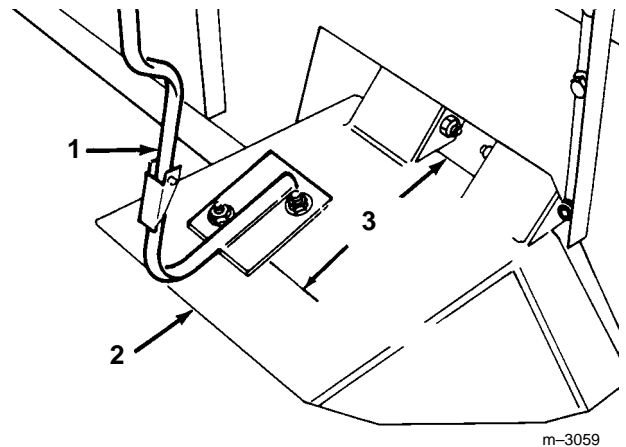

Figure 7
1. Measure 7" (on a 44" deck) or 7 1/4" (on a 52" deck) from the edge of the deflector and make a mark parallel to the edge (Fig. 7).